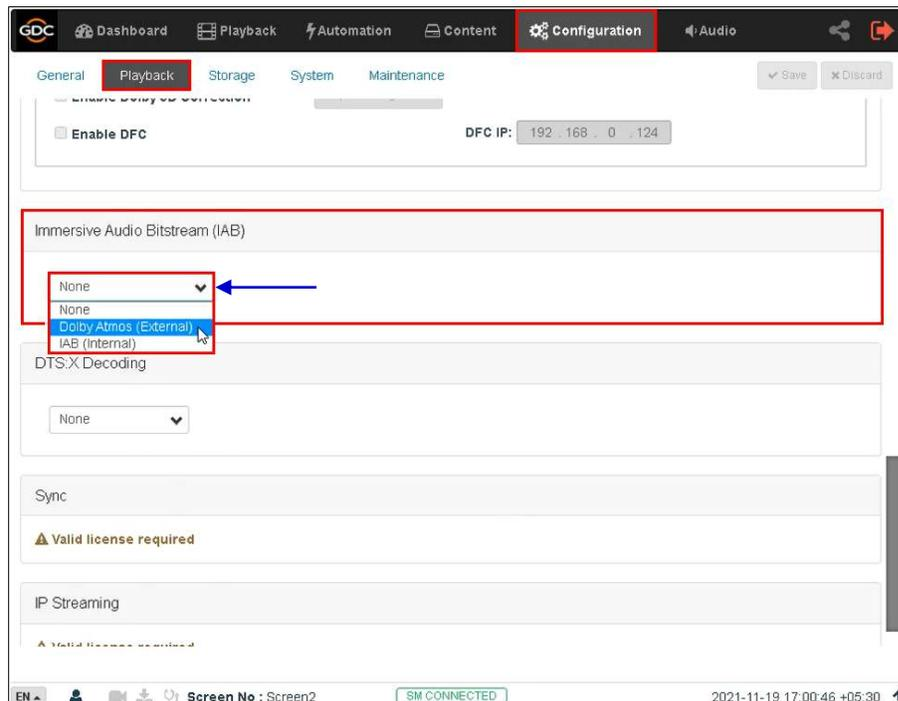

Figure 95: IAB Playback setup
2. Go to **Configuration** → **Playback** → **Immersive Audio Bitstream (IAB)** section and select either 'IAB (Internal)' or 'Dolby Atmos (External)' depending on the decoding desired (refer to **Figure 95**).